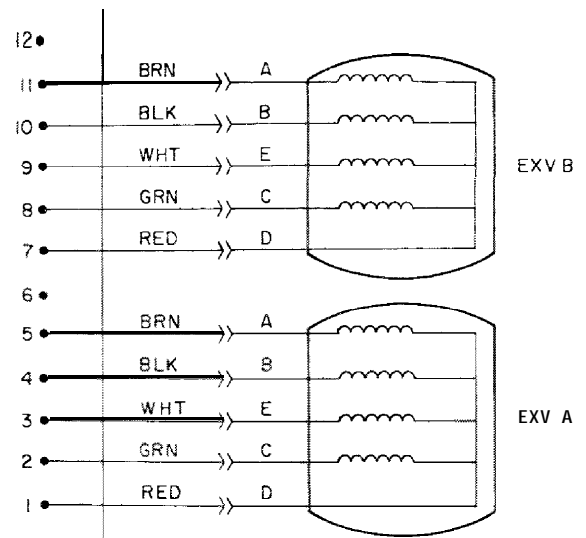

Fig. 8 — EXV Cable Connections to EXV Driver Module
Step 1 Check EXV Driver Outputs — Check EXV output signals at appropriate terminals on the EXV driver module (Fig. 8) as follows:
Step 2 Check EXV Wiring — Check wiring to electronic expansion valves from terminal strip on EXV driver (Fig. 8).
Remove plug at J7 terminal strip and check resistance between common lead (red wire, terminal D) and remaining leads A, B, C, and E (see Fig. 8). Resistance should be **25 ohms +/- 2 ohms**.